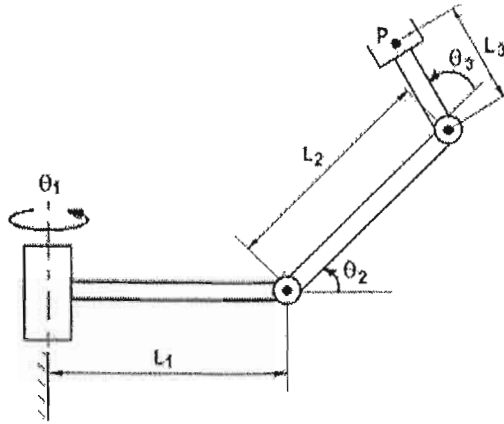

Fig. Q3
3. (a) A 3-DOF robotic manipulator is shown in Fig. Q3. The point P on its end-effector is required to reach the coordinates of (20, 30, 40). If $L_1 = 50$, $L_2 = 60$ and $L_3 = 30$ determine the angles θ_1 , θ_2 and θ_3 through which the joints should be rotated for achieving that position of P.